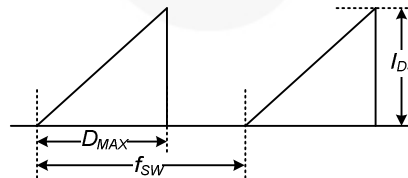

Figure 4. Repetitive Peak Switching Current
6. Repetitive peak switching current when the inductive load is assumed: Limited by maximum duty (D_{MAX}=0.83) and junction temperature (see Figure 4).